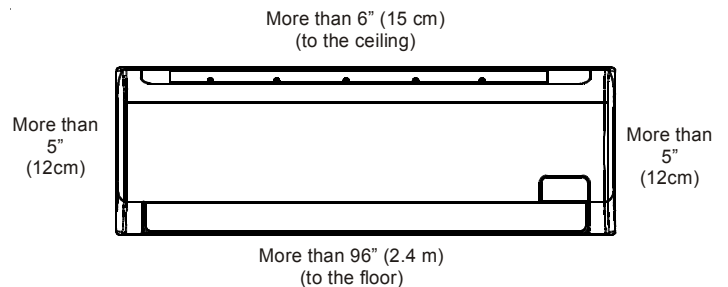

Figure 1
- Ensure that the spaces indicated by the arrows is from the wall, ceiling or other obstacles (See minimum clearances required in Figure 1.)